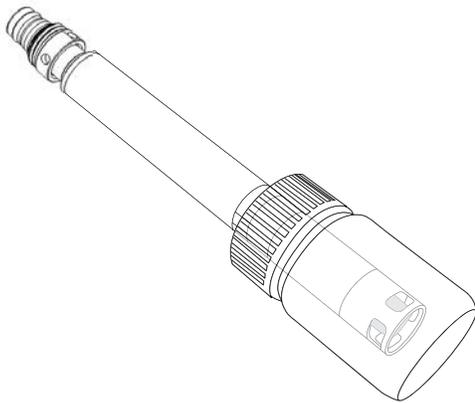

Figure 80 ISE long-term storage
3. Install the bottle o-ring and tighten (Figure 80).